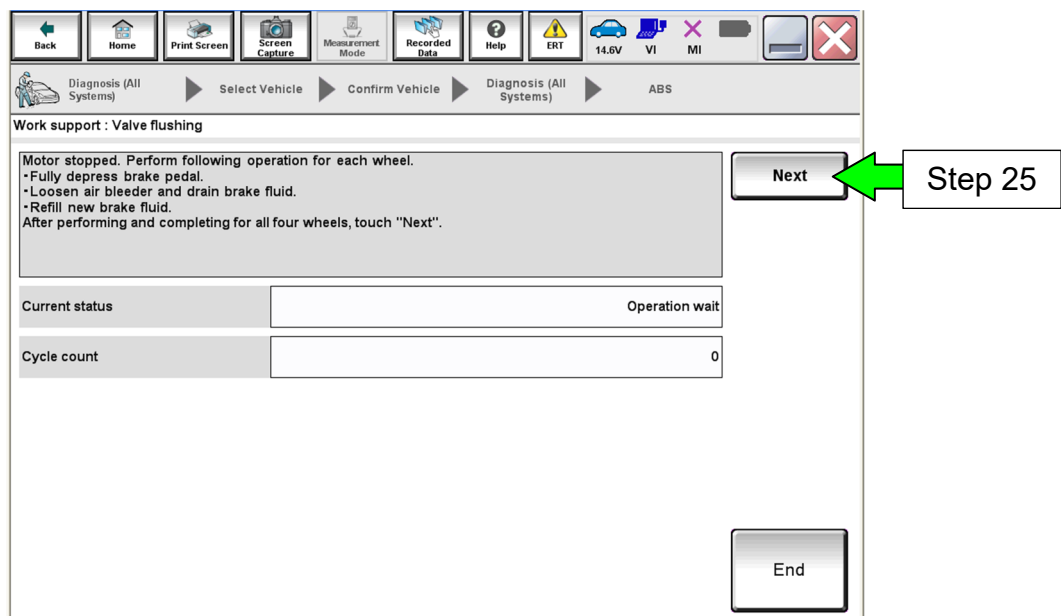

Figure 14
- The screen in Figure 14 will display after the operation has completed. **Do Not select Next again until instructed to.**